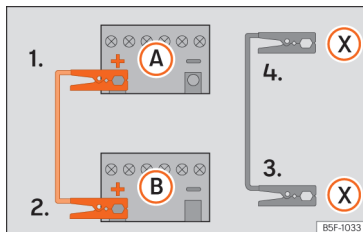

Fig. 194 Wiring diagram for vehicles with a start/stop system.
The jump leads should only be connected in the order **1 > 2 > 3 > 4** »» Fig. 194.
Vehicles with a Start-stop system: connect one end of the *black* jump lead (X) to a suitable ground terminal, to a solid piece of metal in the engine block, or to the engine block itself »» Fig. 194.
- Connect the other end of the *black* jump lead (X) to a suitable ground terminal, a solid metal component bolted to the engine block or to the engine block itself of the vehicle with the flat battery. Do not connect it to a point near the battery **A**.